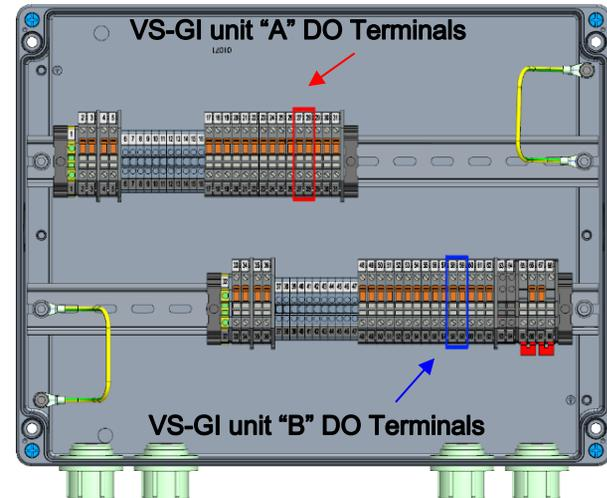

Figure 2-76. Discrete Outputs Terminals Inside VS-DX J-Box
61. Close knife disconnect terminals for the newly installed VariStroke **[Discrete Output]** (**VariStroke A terminals #27, 28**) or (**VariStroke B terminals #58, 59**) (Figure 2-76).